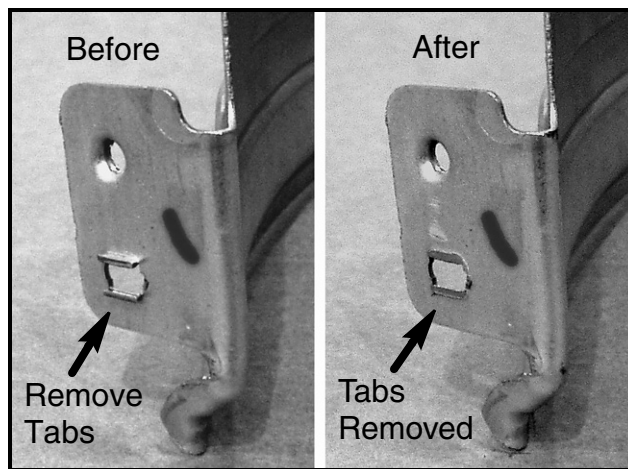

FIGURE 6
14. Using a medium coarse file or bench grinder, remove the two small projecting tabs at the square hole on the side marked in Step 13. See Figure 6.